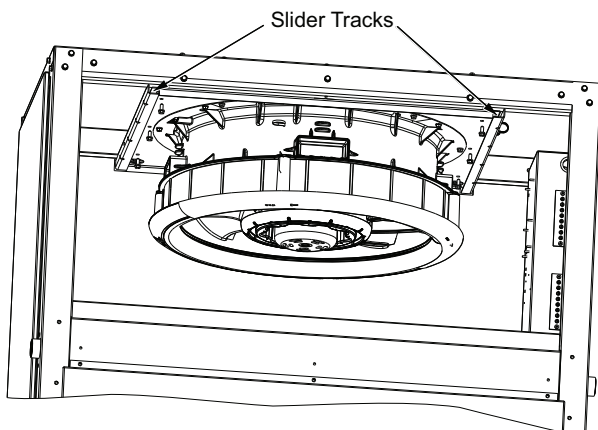

Fig. 32 — Lower Fan Deck Assembly to Slider Tracks
- Allow the fan deck to drop into the slider tracks (careful not to pinch body parts when the fan drops) See Fig. 32.